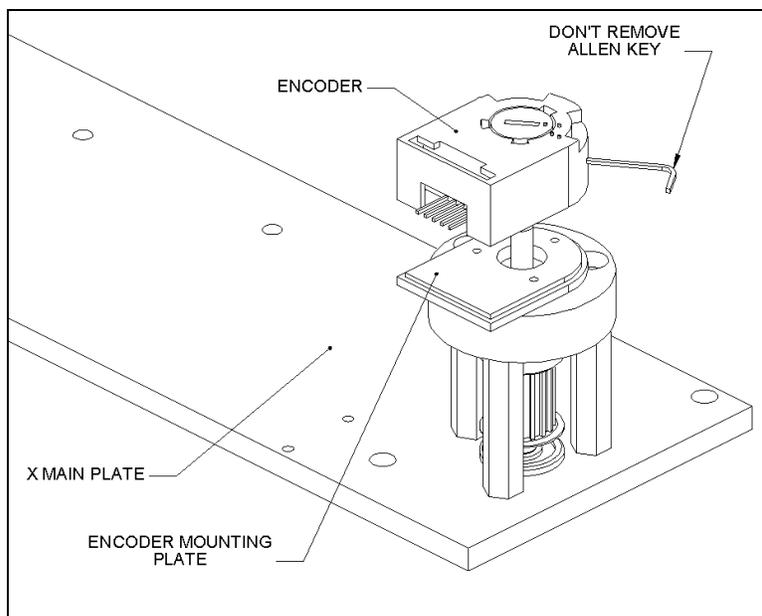

Figure 7-54 Mounting the X-Encoder
- 1 Place the encoder on top of the encoder mounting plate as shown in Figure 7-54. It will snap into place.
- 2 Tighten the encoder wheel to idler shaft (Figure 7-54) using the Allen key.